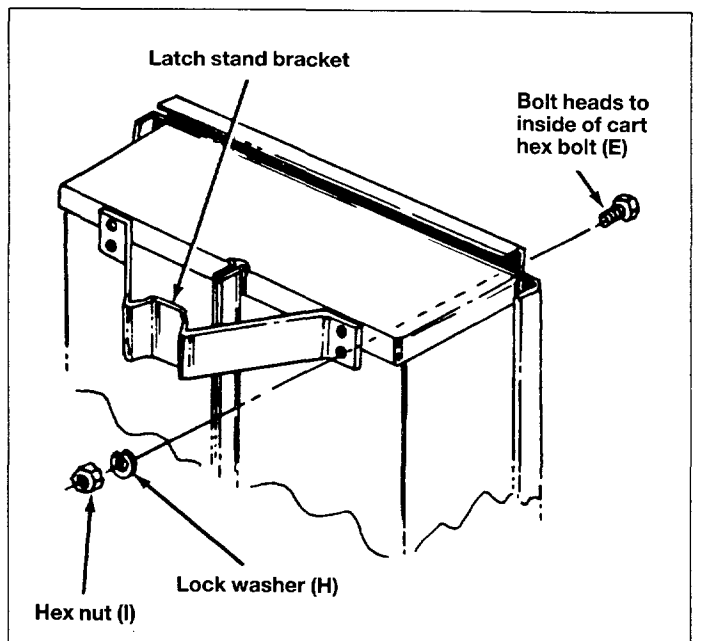

Fig. 9
14. Assemble latch stand bracket using four 1/4" x 5/8" (6 mm x 16 mm) hex bolts (E), lock washers (H) and hex nuts (I). See figure 9.